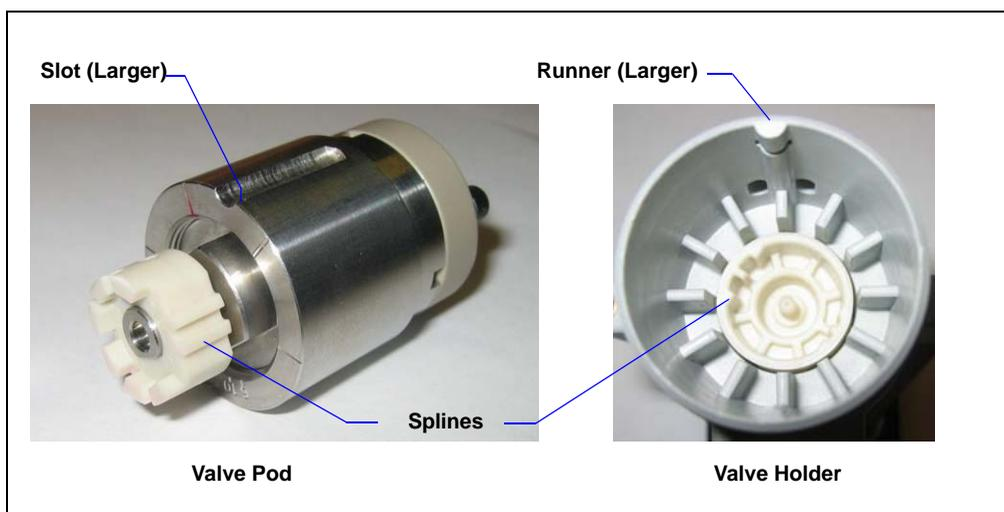

Figure 5-17. Valve Pod and Pod Holder
9. Also verify that the two splines on the pod align with the matching splines inside the valve holder (see Figure 5-17). If necessary, twist the end of the pod to adjust the position of the splines.